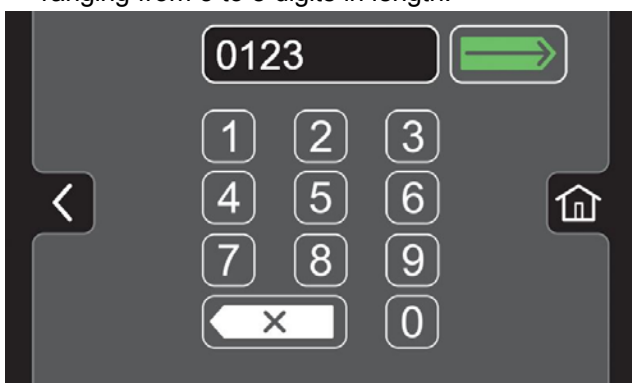

FIG. 162
5. Assign a login code for the new user profile then press the green enter button (Figure 162). The new login code can be any combination of numbers ranging from 3 to 8 digits in length.